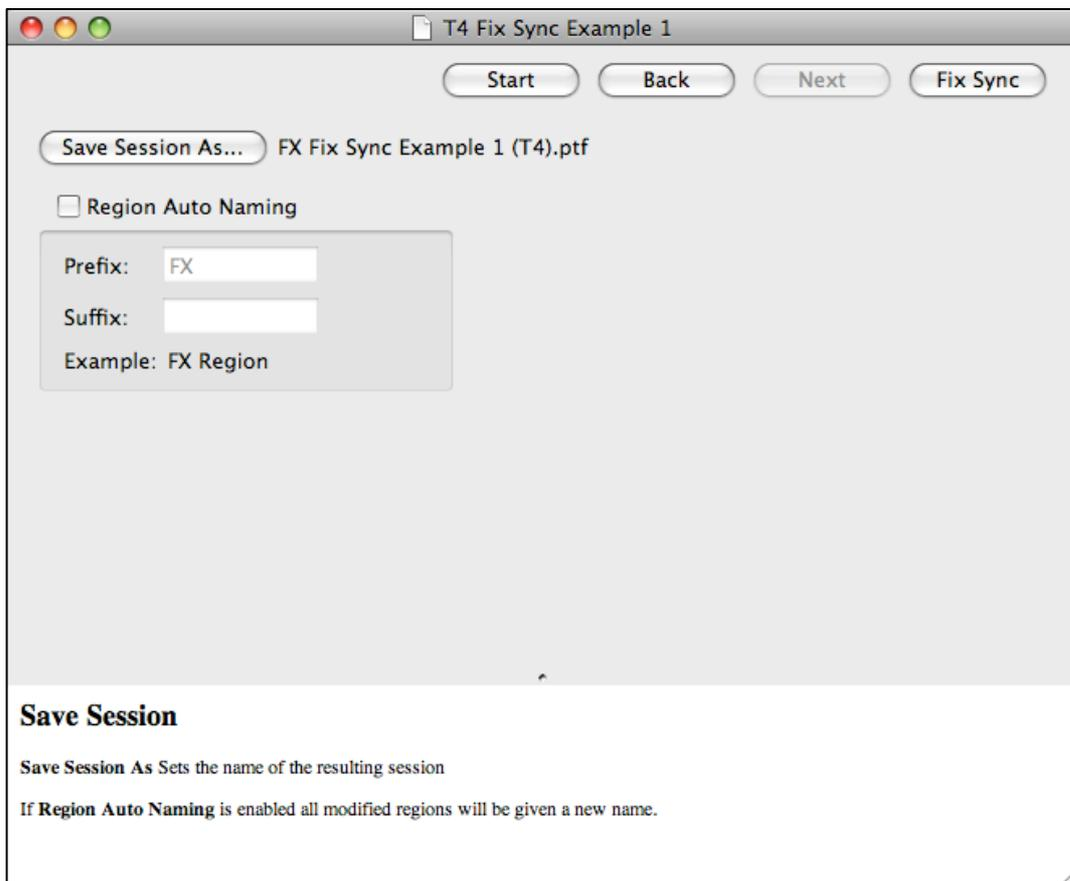

Figure 21 Save Session page showing file name chosen
- The Fix Sync window now displays the Save Session page (see Figure 21). This page allows you to set the output session name, and choose region auto-naming options for the output session. To set the output session name: